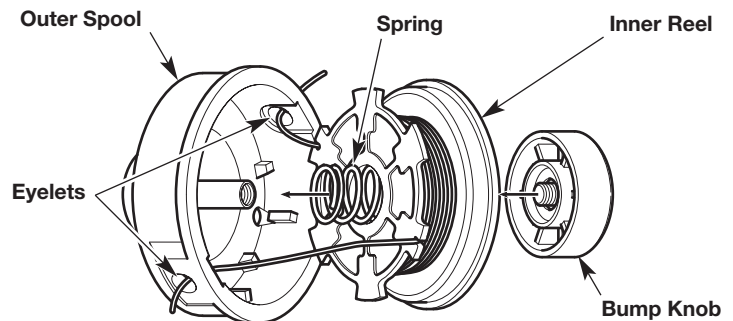

Fig. 32
1. Pass the two line ends through the eyelets in the outer spool. Place the spring inside the inner reel. Insert the inner reel into the outer spool. Push the inner reel and outer spool together (Fig. 32).